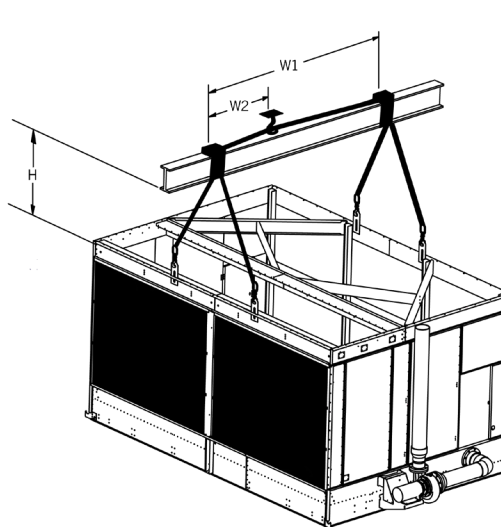

Figure 1a. Lower Section Lift
**NOTE:** For the lower section, see Figure 1a on page 4.
2. Position the lower section on the unit supports and bolt in place (see **Figure 1a** on **page 4**).